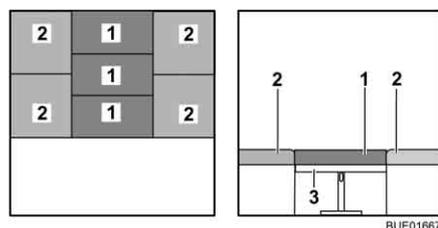

Fig. 94 After conversion
- Place three of the back cushions (Fig. 94,1) on the table.